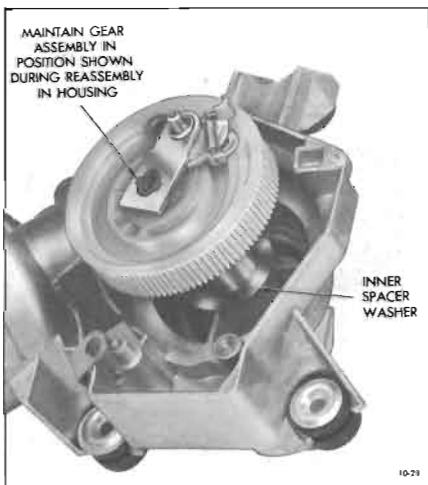

Figure 10-28—Removing or Installing Gear Assembly
2. Slide gear assembly out of housing. See Figure 10-28.
6. Assemble inner spacer washer over gear shaft and assemble gear mechanism in housing so that it is positioned with respect to the housing in the approximate location shown in Figure 10-28.
8. Operate wiper to "park" or "off" position and install crank arm in the approximate position shown in Figure 10-28.